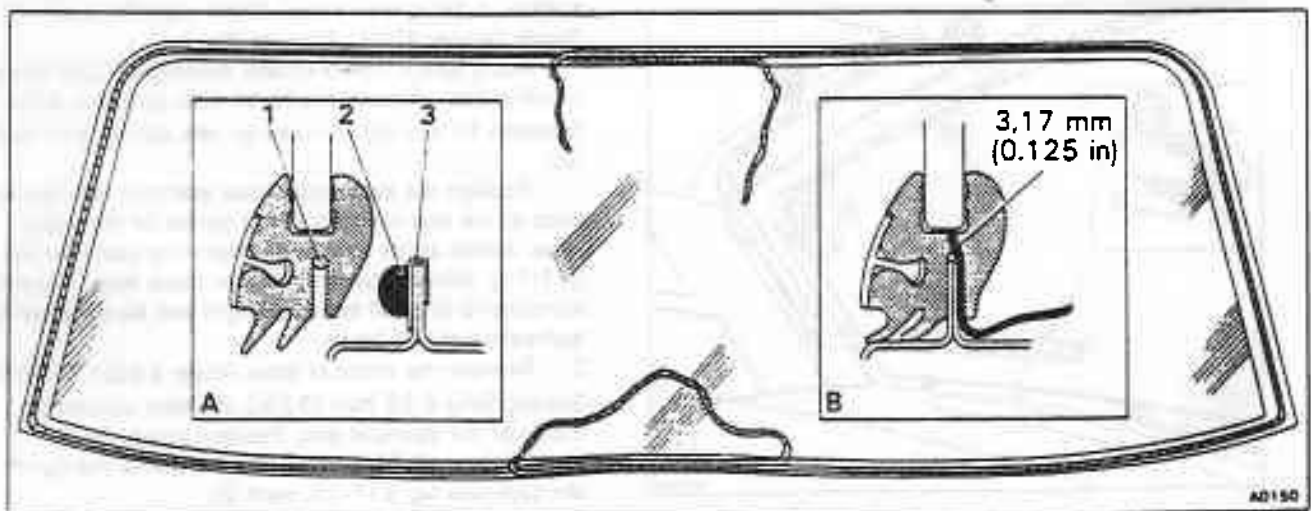

Fig. S11-6 Position of cord and sealing arrangement
Apply a layer of black waterproof tape to the aperture flange (see fig. S11-6 inset A, item 3). The tape should be turned over the edge of the flange for approximately 12,70 mm (0.50 in).
Remove the seal, then drill two 3,17 mm (0.125 in) clearance holes through the rubber (see fig. S11-6 inset B).
6. Turn the window over so that the internal surface is uppermost. Then, thread a length of cord around the inside lip of the seal (see fig. S11-6 inset A, item 1). Leave a loop in the cord at the bottom of the window and overlap the two ends of the cord at the top (see fig. S11-6). Secure the loose ends of the cord and the demister wires to the glass with masking tape.
7. Using a sealant cartridge gun, run a continuous 6 mm (0.236 in) bead of Arbomast Autograde Sealant or Seelastik around the window aperture flange (see fig. S11-6, item 2).